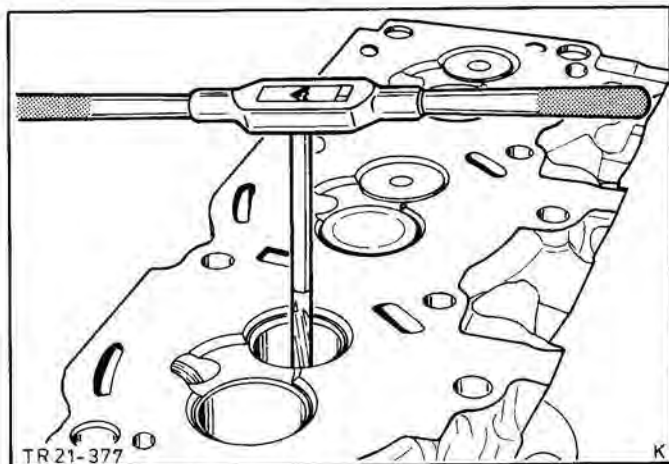

Fig.98. Ream valve guide.
2. Ream valve guide from the valve seat end using a suitable reamer, Fig.98. Use soluble oil or kerosene for lubrication.